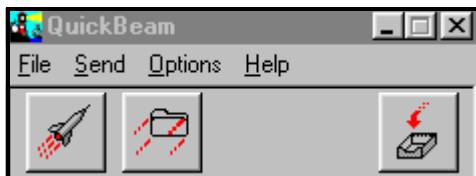

Figure 4-14: The QuickBeam Window
- Click on the desired file, and drag it onto the rocket button in the QuickBeam window, as shown in Figure 4-14 below, or: